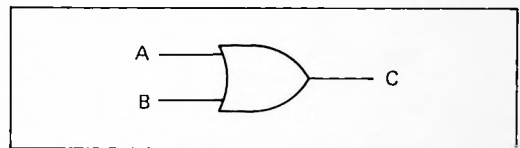

Figure C-2. Or Logic Symbol.
- b. **Or.** As shown in Figure C-2, the Or-gate output (C) is HIGH (+5 Vdc) when any one input or all of the inputs (in this case A or B), are HIGH (+5 Vdc). When all inputs are LOW (GRD) the Or-gate output (C) is LOW (GRD). Therefore, a HIGH (+5 Vdc) input controls the Or-gate. See Or Truth Table, Table C-2.